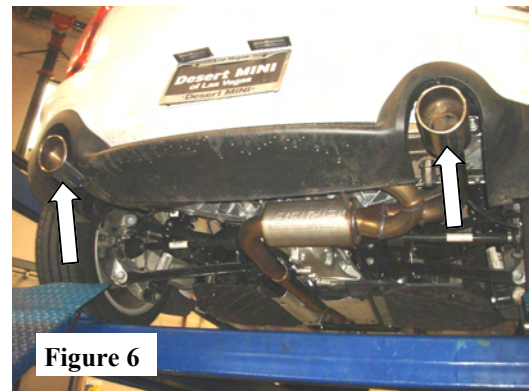

Figure 6
3. Check your exhaust for proper clearance under the vehicle and for tip alignment. (See Fig. 6)